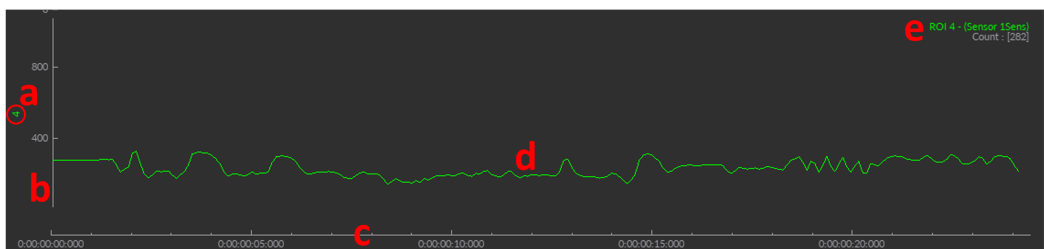

Figure 8.40: ROI(s) View, graphs
- a) The **ROI(s) ID** (Fig. 8.40, a) specifies which ROI the signal graph belongs to. The graphs are displayed in order of ROI created.
- b) The **y-axis** (Fig. 8.40, b) represents the mean signal intensity of the ROI, which is unit-less.
- c) The **x-axis** (Fig. 8.40, c) represents the time in d:hh:mm:ss:zzz.
- d) The **Trace** (Fig. 8.40, d) is the curve of the signal, corresponding to fluctuations in pixel intensity, from which $\Delta F/F_0$ will be calculated.
- e) The **Legend** (Fig. 8.40, e)